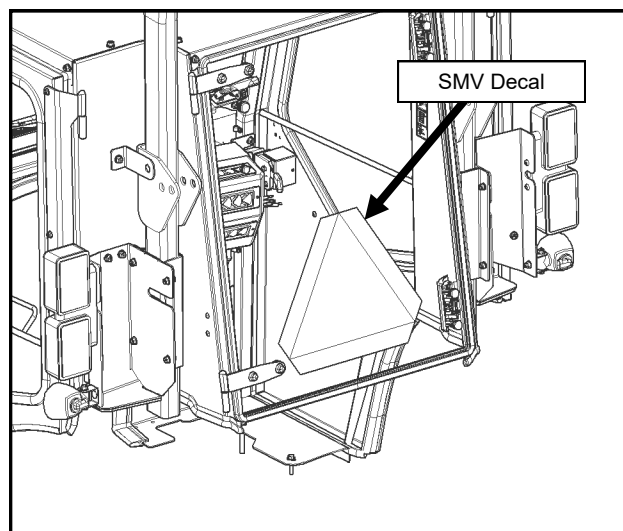

Fig. 22.1 (SMV Decal)
22.1 If planning on using the tractor on public roads, apply the SMV decal to the outside of the rear window. See Figure 22.1.